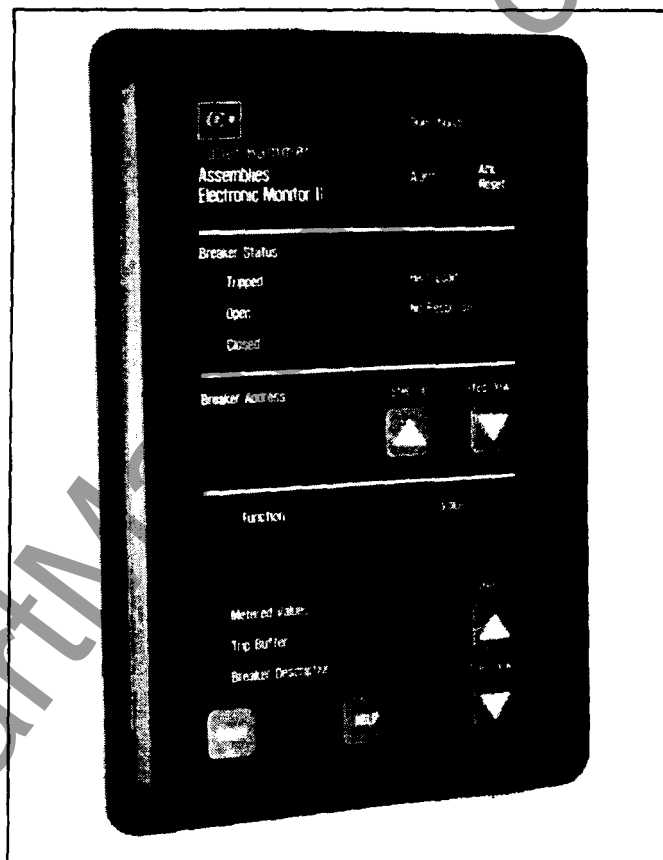
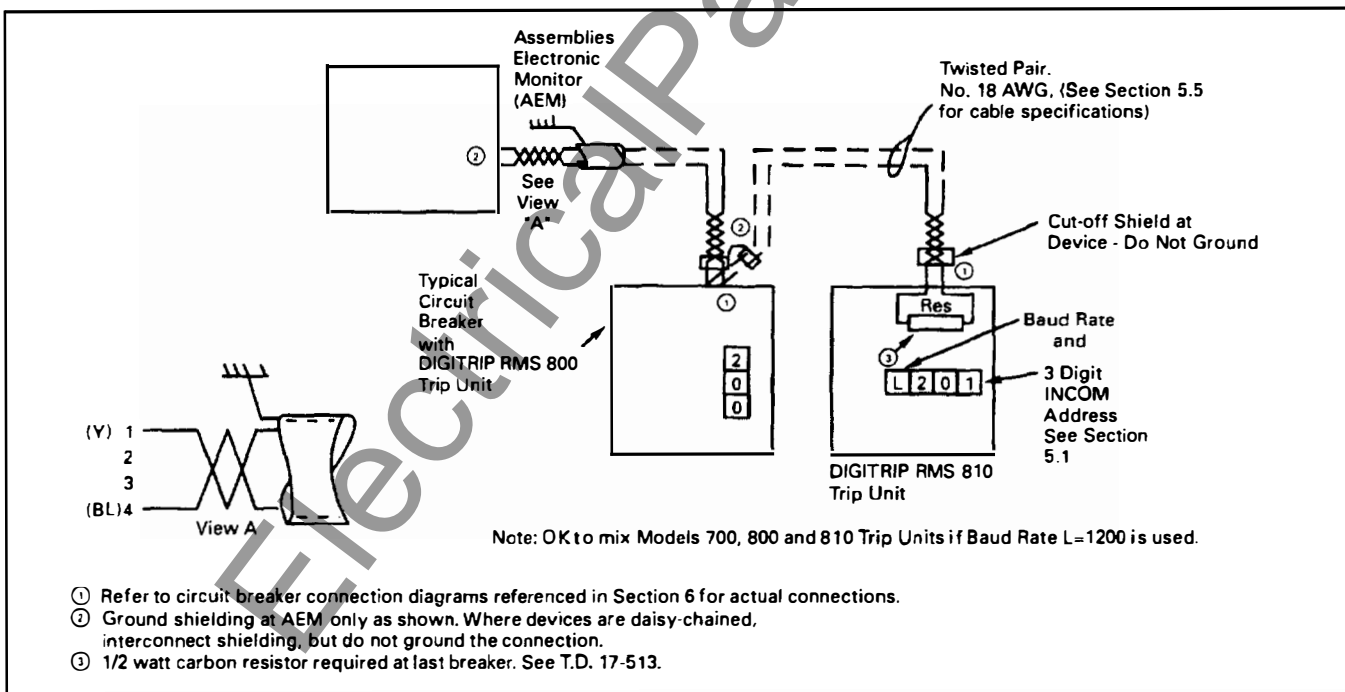

Fig. 10 AEM Assemblies Electronic Monitors (AEM-II)
Fig. 11.2 INCOM Network with AEM
- An Assemblies Electronic Monitor (AEM) for local or remote monitoring (See Figs. 10 and 11.1 and references in Section 6).
- A remote master personal computer (PC) - IBM® compatible (See Fig. 11.2 and references in Section 6).
An Assemblies Electronic Monitor (AEM) (see Fig. 10) can be applied in the same assembly with the circuit breakers, or at a location remote from the breakers, to monitor the information from any of the Digitrip RMS 810 Trip Units. The connections in the network are made by twisted pairs of wires as shown in Fig. 11.2. Digitrip RMS 810 Trip Units should be set to communicate at 1200 Baud when applied on the same network with Digitrip RMS 700 and 800 Trip Units. (See Section 5.1, item 5.)